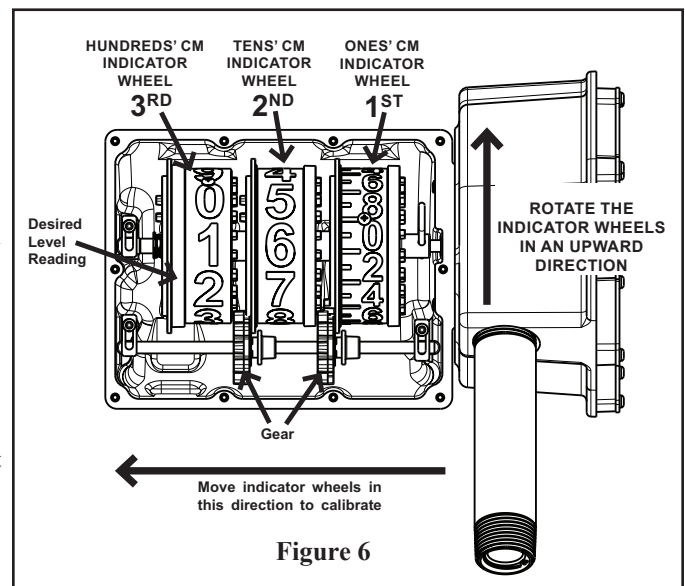
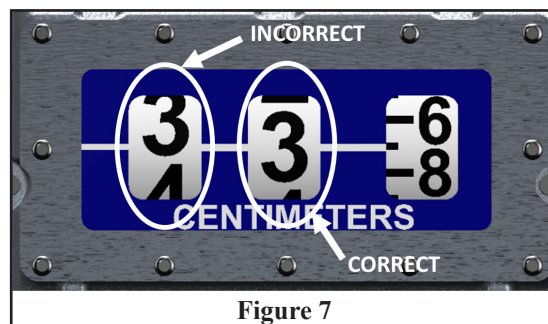

Figure 6
Figure 7
27. Now the gauge can be calibrated to the liquid level you found in step 6. Calibration is done one indicator wheel at a time (See Figure 6). Start with the ones' centimeter indicator wheel. Grab the indicator wheel and push it to the left to clear the drive gear. The ones' centimeter indicator wheel must be fully disengaged from the drive gear. The indicator wheel should now freely rotate. Rotate the wheel UPWARDS so that the numbers are counting up. Once at the correct setting, slowly let indicator wheel seat back into the drive gear. Failure to follow this procedure can cause damage to the internal mechanism and render the gauge inoperable. **Note: desired level reading needs to be in the center of the viewing window.** See Figure 7 (next page).
28. Calibration for the tens' and hundreds' centimeter readings is done in a similar manner pushing the indicator wheels to the left so they clear the gears that are offset below the indicator wheels (See Figure 6). Calibrate the tens' centimeter indicator wheel and then the hundreds' centimeter indicator wheel. **Note: desired level readings need to be in the center of the viewing window.** See Figure 7 (next page).